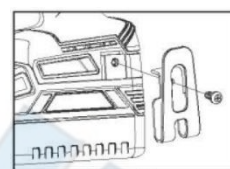
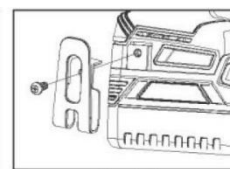

Fig. 6A
Fig. 6B
2. To install the belt hook, insert it into a groove in the tool housing on either side and then secure it with a screw. To remove, loosen the screw and then take it out. (Fig. 6A & Fig. 6B)